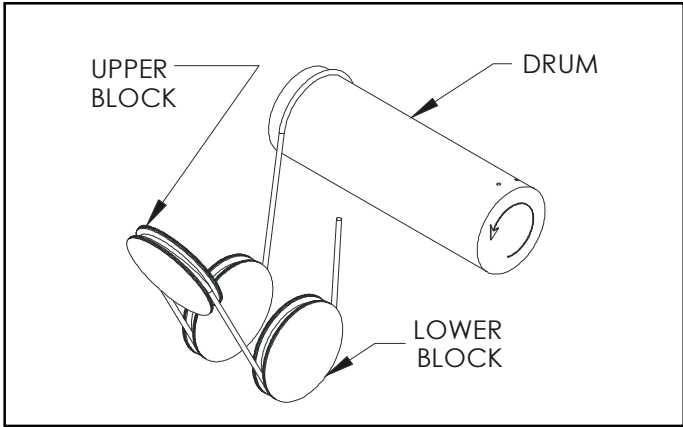

Figure 5-5a. Reeving Diagram - 4 Part Single Reeved. (Note: Arrow on Drum Indicates Direction of Drum when Lowering.)
- (5) With outer lower block covers removed, thread the wire rope through the sheaves of the upper and lower block as shown in Figures 5-5a and 5-5b.
- (6) Attach swaged rope end to the dead end anchor pin and fasten with the retainer rings provided with the hoist.
- (7) Replace the lower block sheave covers.
- (8) Lubricate cable per Paragraph 4-3.